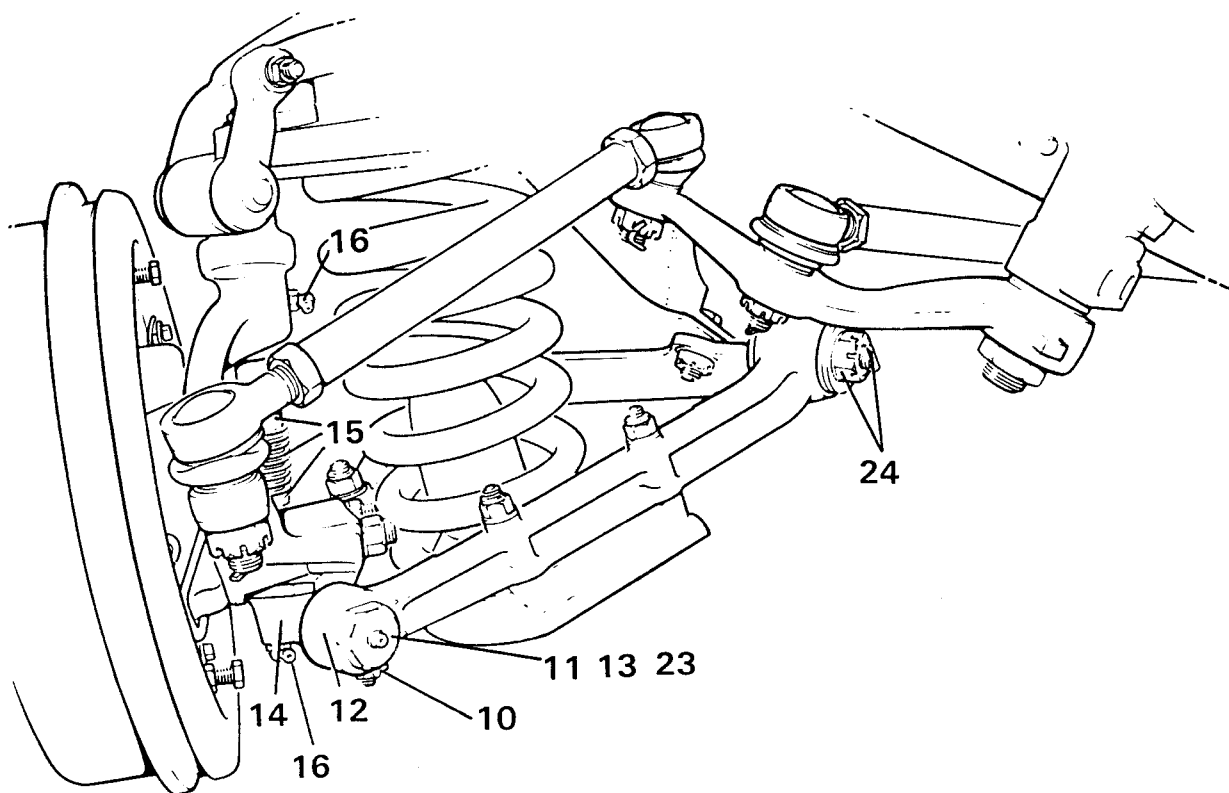

Figure 5
10. The lower fulcrum pin assembly can now be dismantled. Unscrew the nut on each of the cotters located in the ends of the lower wishbone arms. See figure 5.